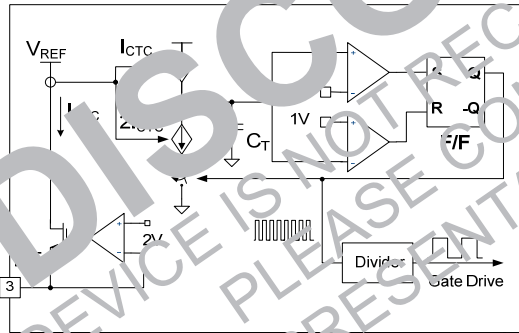

Figure 19. Current-Controlled Oscillator
2. Internal Oscillator: FSFR-HS series employs a current-controlled oscillator, as shown in Figure 19. Internally, the voltage of the RT pin is regulated at 2 V and the charging / discharging current for the timing capacitor, C_T , is obtained by copying the current flowing out of the RT pin (I_{CTC}) using a current mirror. Therefore, the switching frequency increases as I_{CTC} increases.